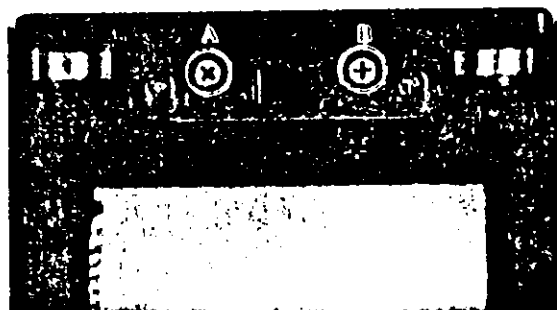
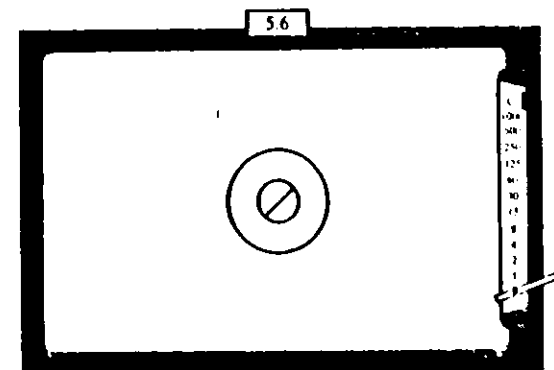

Fig. 20
Fig. 21
## 6. F stop indication (see Fig. 20)
- 3) Look through the finder, and turn F stop indication adjusting **SCREW** in Fig. 20 so that the F stop (5, 6) appearing in the F stop indication window of Fig. 21 comes to the center.